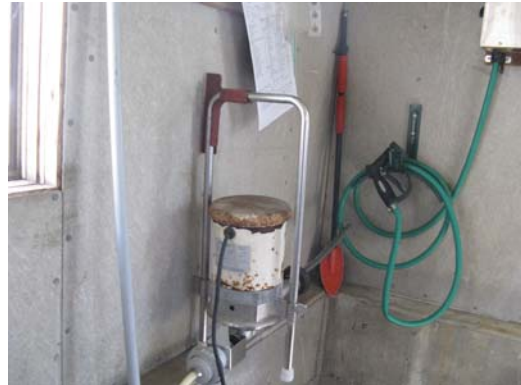

Figure 1. Shows improved storage of the jet tubes to prevent contamination
- If the tip of the jet tube is dented or plugged the spray pattern can be altered and may result in a cleaning failure. The tip needs to be kept up off the floor and protected. Options are to hang the washer on the milk house wall or set the tip on a stainless bracket. (see figure 1)